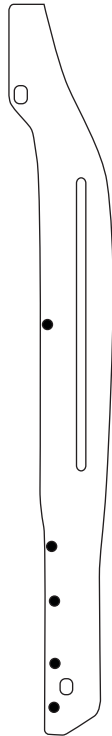

FIGURE 1
- Black dots represent the location of five (5) blind rivets (W707638-S900C). (Refer to Figure 1).